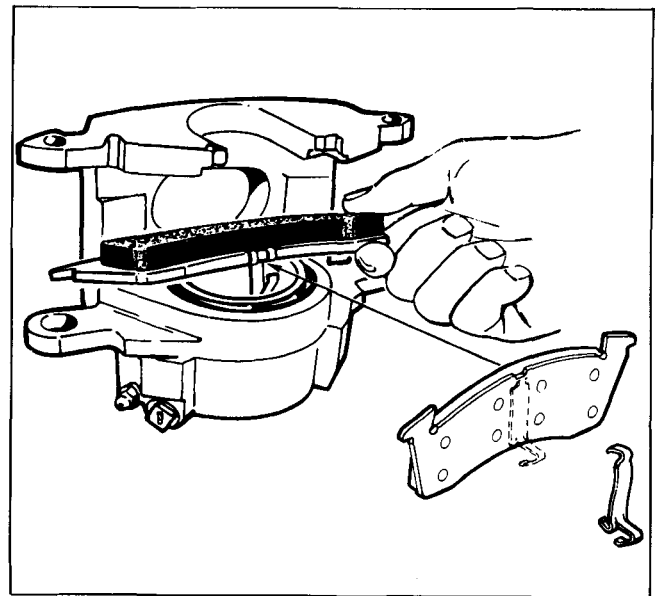

Fig. 5E-11 Shoe Support Spring
3. Install shoe support spring by placing the single tang end over the notch on the top edge of the inboard shoe. Press the double tangs over the bottom edge of the shoe. Position shoe in caliper (Fig. 5E-11). Press down on ends of shoe until it rests on piston.